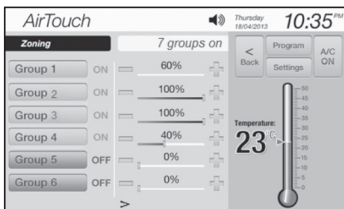
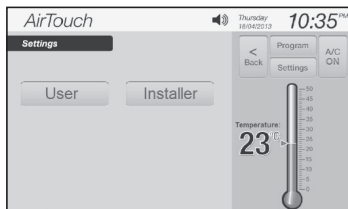

Figure 3.
Figure 4.
- a) Touch **Settings** on the home screen (Figure 3) to enter to 'Settings' screen (Figure 4).